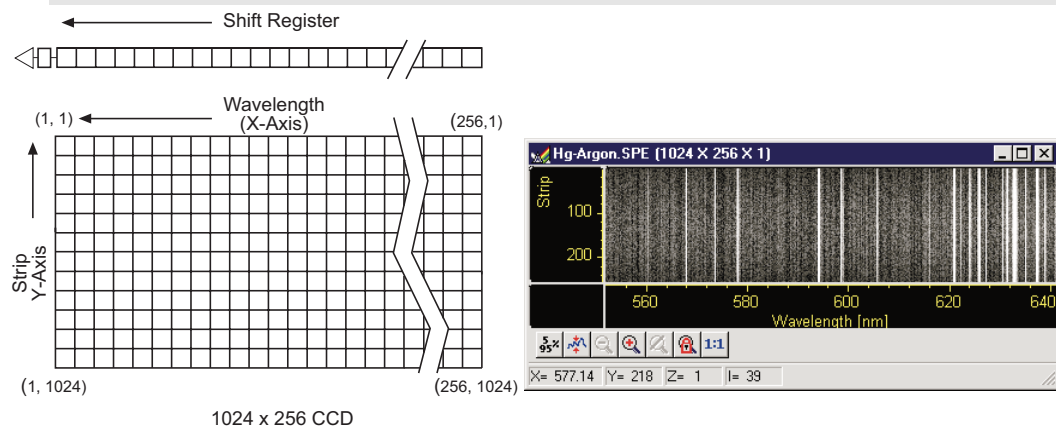

Figure 111. Assumed CCD Array Orientation
2. References to X and Y axes assume that the shift register is parallel to the X-axis and that the data is shifted to the shift register in the Y direction. See Figure 111 below.